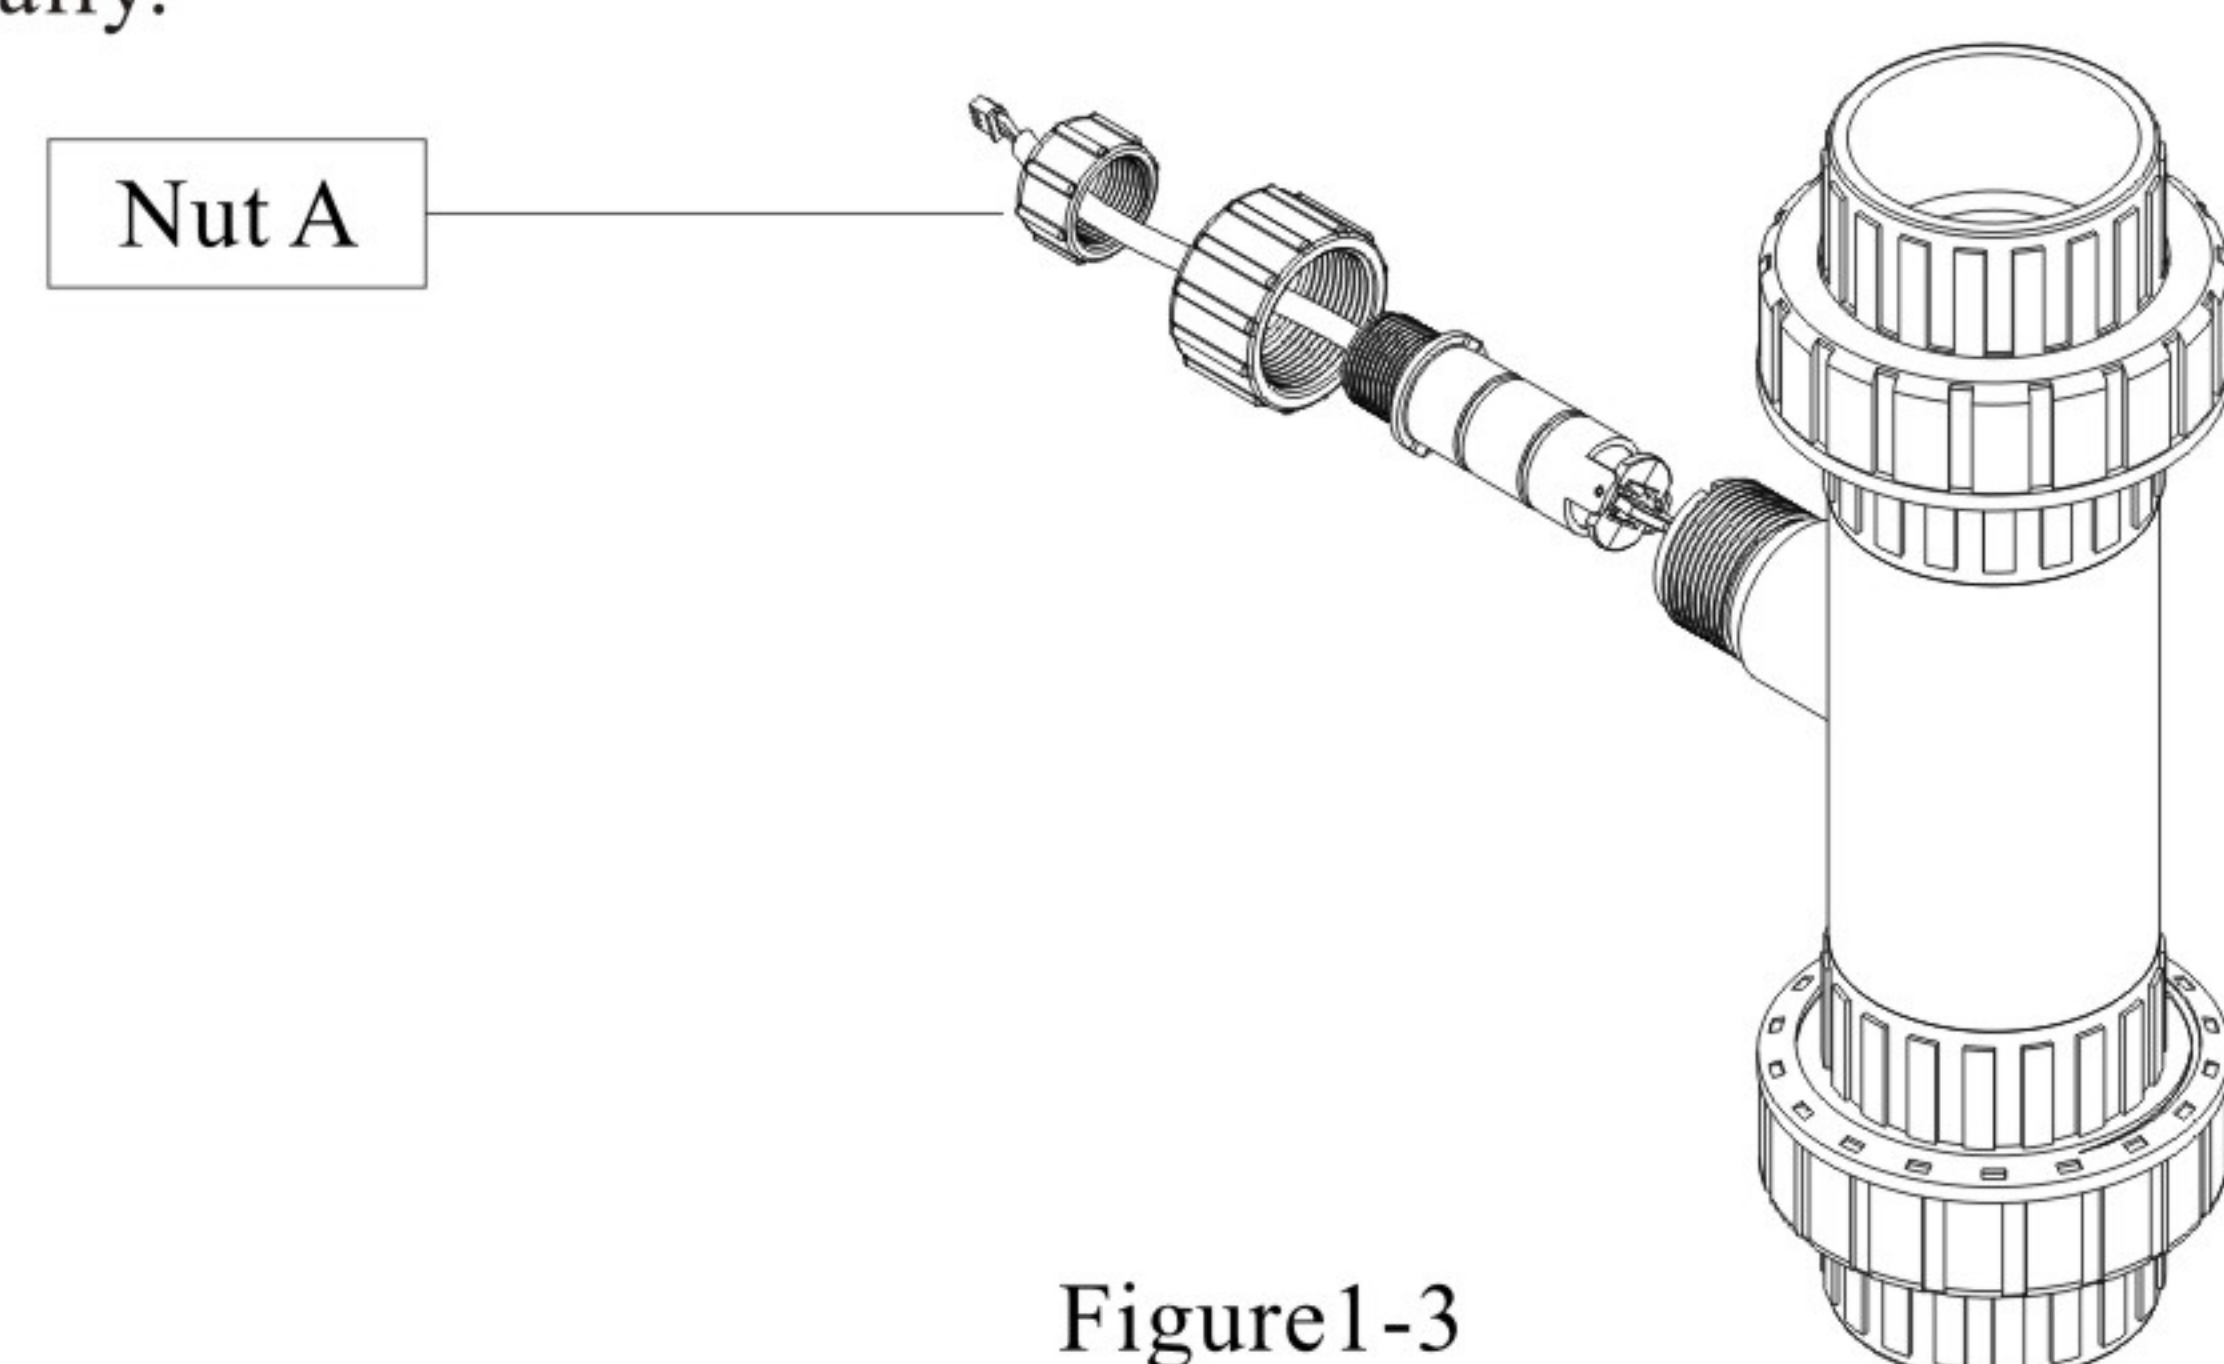

Figure1-3
B. When the flow meter stop measuring but the tested liquid still flow, it can check the work mode of probe online. Screw the probe nut A out, and check the working condition of the diode on the back of probe. If the diode always light on or off, it indicates the impeller in pipeline stop rotating. It shall stop pipeline working, release pressure in pipeline, and disassemble the probe to check if there is any foreign matter impact impeller rotating. After cleaning, if it can rotate normally by manually, and the diode works normally, it can continue to use after confirming the installation correct. (As Figure 1-3)